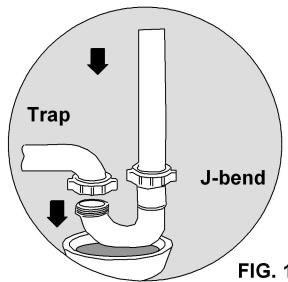

FIG. 1
1. Disconnect tailpiece from the sink. Remove J-bend from disposal and trap. Use a bowl to catch trap water. (See Fig. 1)